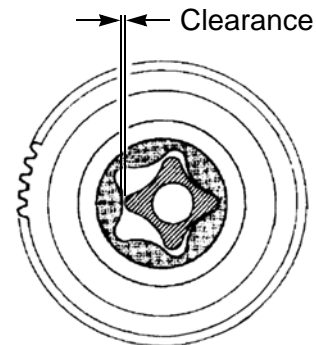

Fig. 3-36
- b. Adjust the side clearance of the rotor and vane to 0.0039-0.0059 in(0.1–0.15 mm). (See Fig. 3-36)